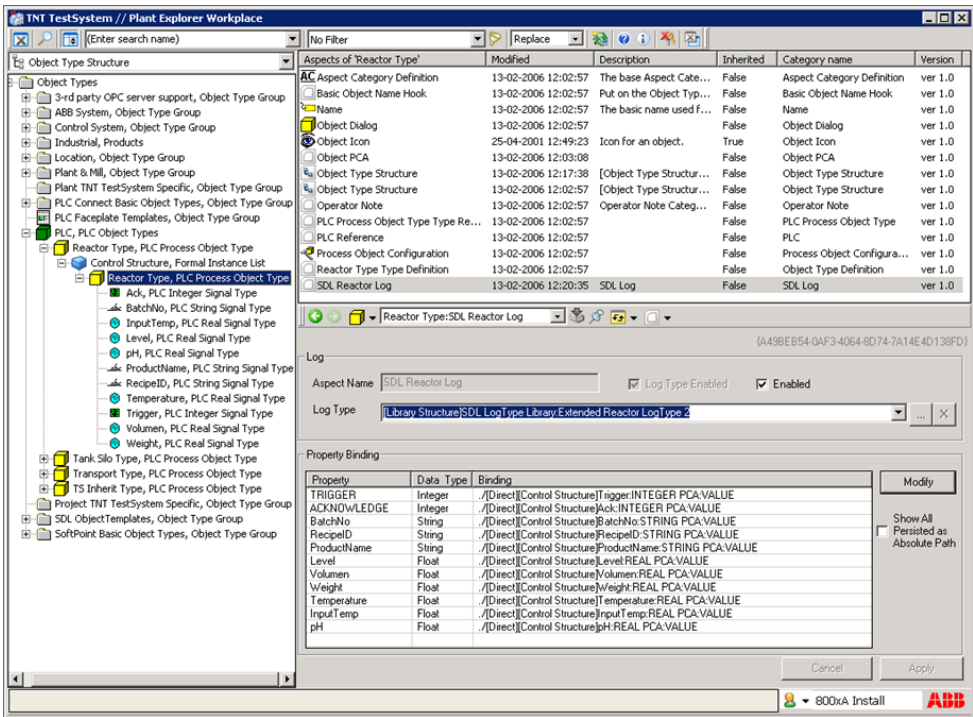

Figure 13. SDL Log Aspect (Configuration View)
2. Add a SDL Log aspect to an object in the Object Type structure and bind the record to the OPC properties (Figure 13).